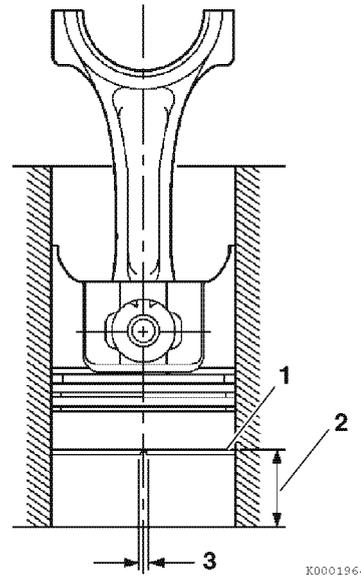

Figure 6-75
10. To measure piston ring end gap, insert each compression piston ring (1, **Figure 6-75**), one at a time, into the cylinder. Use a piston with the piston rings removed to slide the ring into the cylinder bore until it is approximately 1.18 in. (30 mm) (2, **Figure 6-75**) from the bottom of the bore. Remove the piston. Measure the end gap (3, **Figure 6-75**) of each piston ring. Record the measurements. See *Piston Ring* on page 6-11 for specifications.